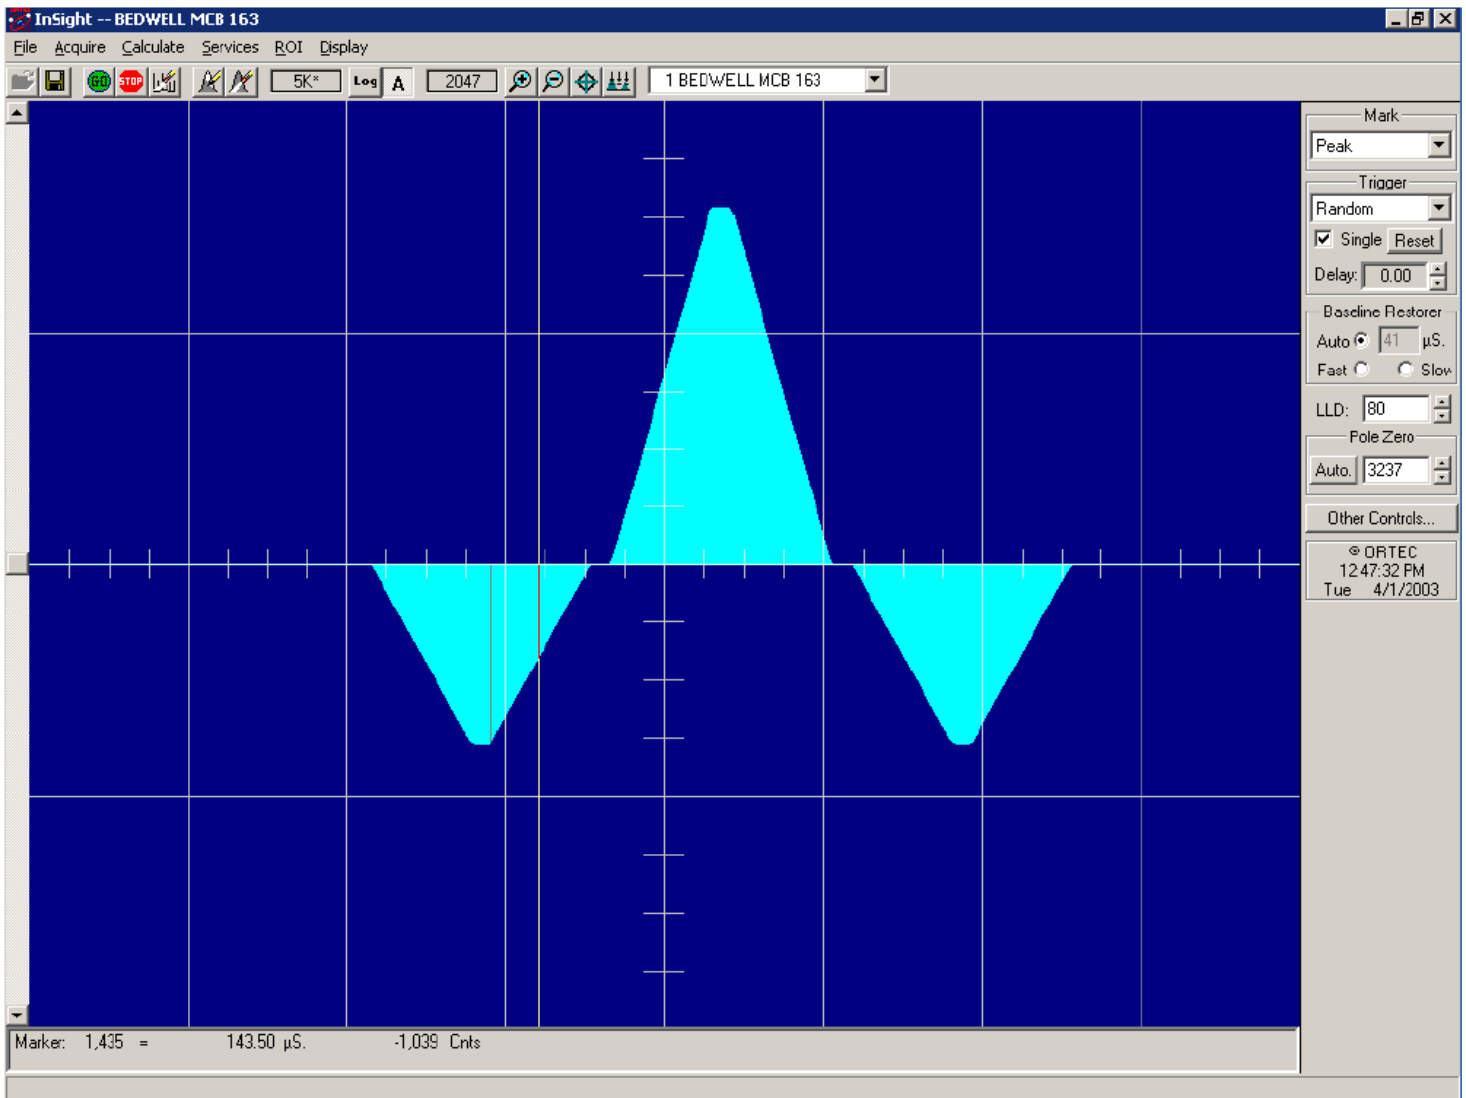

Figure 3. LFR-Enabled Digital Filter.
The ORTEC LFR filter removes most of the microphonic noise by estimating the microphonic-induced error signal on a pulse-by-pulse basis and subtracting the estimated error signal from the trapezoid output. As noted above, the error signal is proportional to the slope of the baseline during the energy measurement. If the slope is known, then so is the error introduced by the microphonics. An excellent estimate of the slope can be obtained by using the trapezoidal filter itself to measure the slope both before and after the energy measurement. Since the digital filter is always sampling the input signal, it is only necessary to store (1) the values measured before the event is detected, (2) the gamma-ray energy measurement, and (3) the values measured after the event is detected. The modified trapezoidal digital filter for LFR from an InSight Virtual Oscilloscope trace is shown in Fig. 3. A suitably weighted and averaged value of the before and after slope measurement is then subtracted from the energy measurement producing a measurement essentially free of microphonic noise. Although the inherent increase in the pulse processing time increases the dead time of the system, the resolution can be greatly enhanced when periodic noise is present.